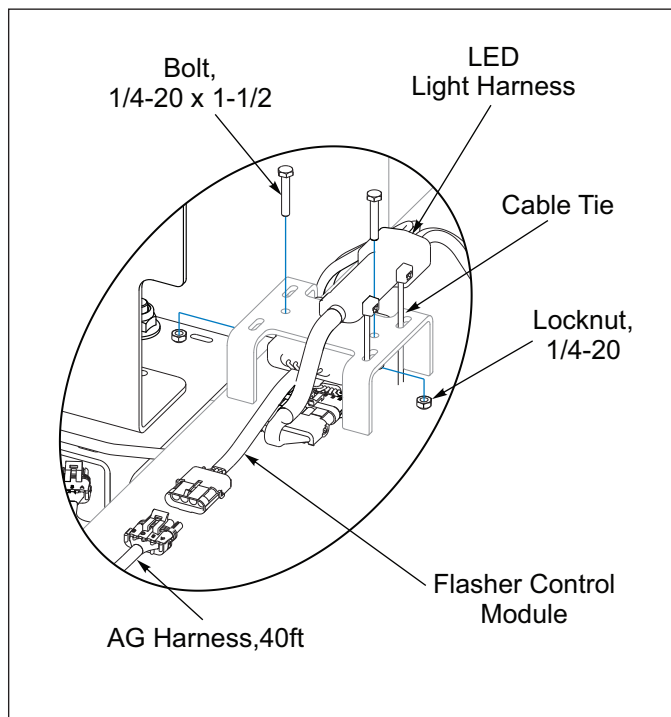

Figure 2-45: Flasher Control Module
3. Attach the Flasher Control Module to the Module Bracket on the RH Frame Inner rear tube using two 1/4-20 x 1-1/2 Bolts and Locknuts. See **Figure 2-45.**